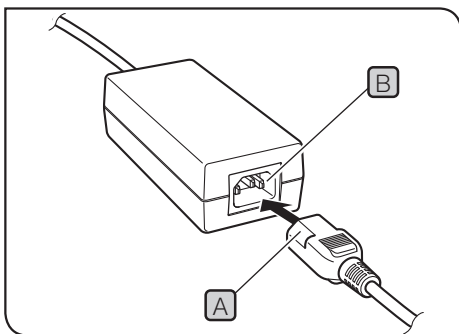

Fig.67
**13 Attaching the power cord** (Fig.67 to 69)
Operation using the AC adapter (Fig.67)